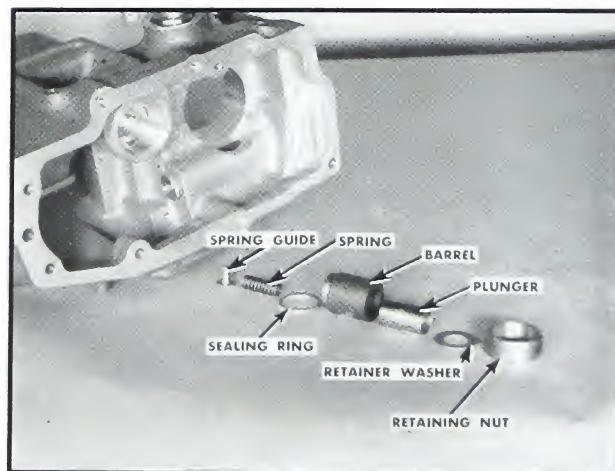

Fig. 5-229. Exploded view plunger and barrel assembly
2. Remove the retainer washer, plunger, barrel, spring and spring guide and plunger barrel sealing ring. Fig. 5-229.
4. Assemble the copper sealing ring to the plunger barrel. Fig. 5-229.
barrel to the upper housing. Fig. 5-229. Install the spring guide, spring and plunger in the barrel.